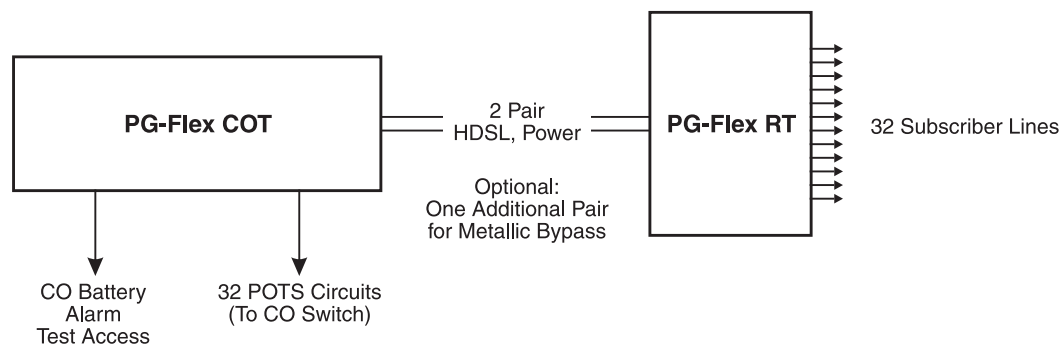

Figure 2. Typical PG-Flex Configuration
4.2 System Flex Configuration. A PG-Flex system, shown in Figure 2, consists of: